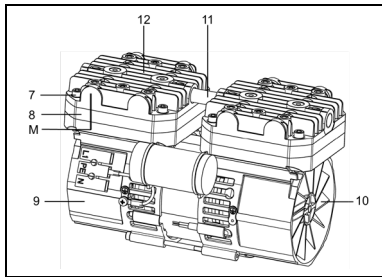
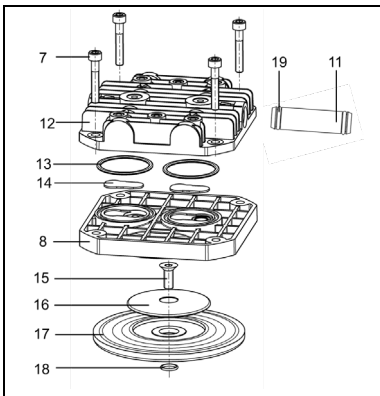

Fig. 6: Pump N 936.3
Fig. 7: Pump head (exploded drawing, symbolic)
\*\* according to Fig. 7
Mark the position of head plate (Fig. 6/12), intermediate plate (8) and pump housing (9) relative to each other by a drawing line (M) with a felt-tip pen. This helps avoid incorrect assembly later.
1. Turn the fan (Fig. 6/10) to bring one diaphragm (Fig. 7/17) to top dead centre.
2. Unscrew the screw for retainer plate (Fig. 7/15), and take off the retainer plate (16).
3. Remove diaphragm (Fig. 7/17) from reception.
5. Turn the fan (Fig. 6/10) until the connecting rod (connecting part between motor shaft and diaphragm) is at top dead centre.
6. Replace the O-ring below the retainer plate (Fig. 7/18) with a new one.
7. Lay in the new diaphragm (Fig. 7/17); then apply the retainer plate (16) and tighten it to the connecting rod with the screw for retainer plate (15) (tightening torque: 9 Nm).
- i** The self-locking screw for retainer plate (15) can only be used once.
1. Pull the connecting tube(s) (Fig. 7/11) out of one of the two head plates (12).
2. Separate the head plate (Fig. 7/12) from the intermediate plate (8).
3. Remove the valves (Fig. 7/14) and O-rings (13) from the intermediate plate (8).
Lay the new valves (Fig. 7/14) and O-rings (13) in the recesses in the intermediate plate (8).
6. Place the head plate (Fig. 7/12) on the intermediate plate (8), in the position indicated by the marking (Fig. 6/M).
7. Check that the head plate (Fig. 7/12) is centred by moving it gently sideways.
1. Push the connecting tube(s) (Fig. 7/11) into the hole in the head plate (12).
**i** Ensure that the O-rings (19) lie in the grooves of the connecting tube(s).
2. Place the two pump heads that are joined by the connecting tube(s) (Fig. 7/11) on the housing according to the markings (Fig. 6/M).
Gently tighten the screws (Fig. 7/7) , evenly and diagonally.
4. Turn the fan (Fig. 7/10) to check that the pump rotates freely.
5. Now tighten at both pump heads screws (Fig. 7/7) diagonally (tightening torque: 6 Nm).